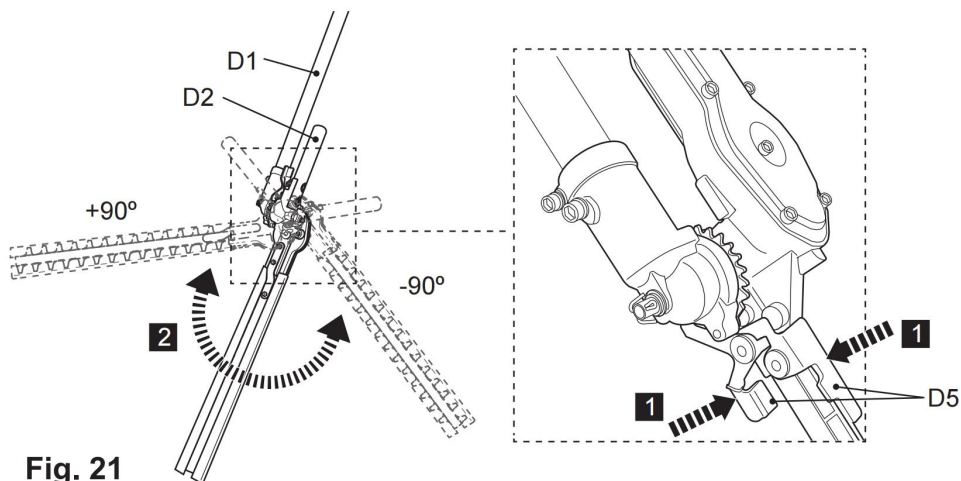

Fig. 21
- 5) Press the unlock levers (D5) to disengage the teeth system (D6) and adjust the blade head to the desired position (Fig. 21).